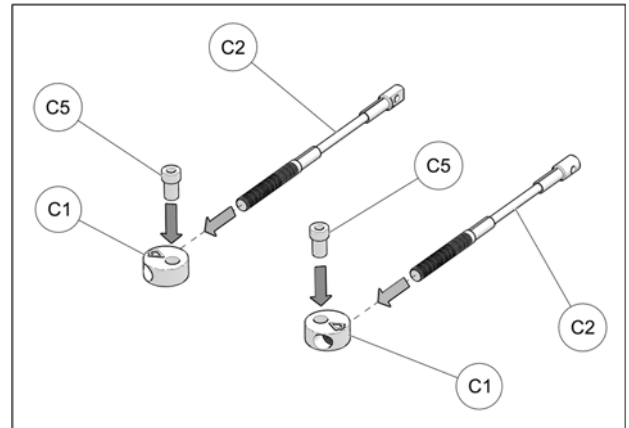

Fig. 14
- Assemble steering limiter cables (C2), aluminium disks (C1) and step spacers (C5) as shown on Fig. 14